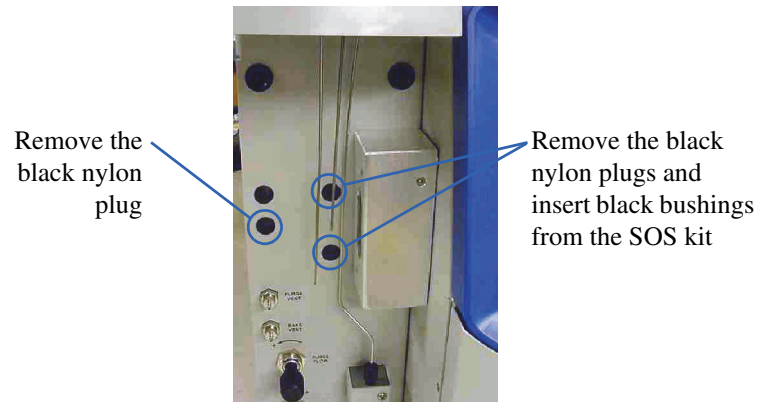

Figure 10.2. Remove the black nylon plugs
- Remove the black nylon plugs from the two middle holes behind the purge-drain needle (Figure 10.2). Insert black bushings from the SOS kit into these two holes.